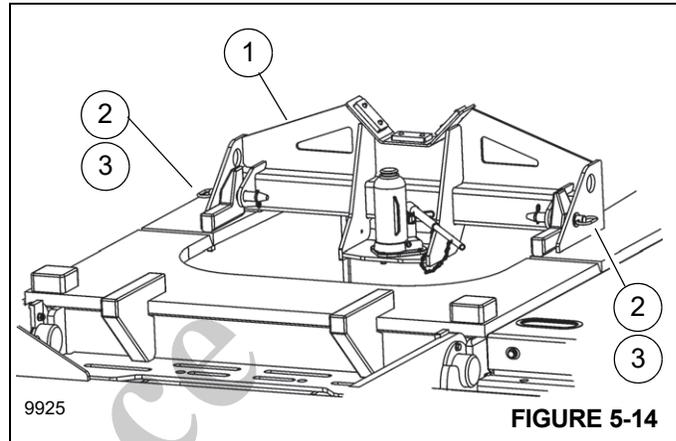

FIGURE 5-14
5. Remove the lift cylinder support (1, Figure 5-14) from the counterweight platform as follows:
5. Install the lift cylinder support (1, Figure 5-14) on the carrier as follows:
- a. Remove retaining clips (2) and pins (3).
- b. Position the lift cylinder support (1) on the carrier. Align support holes with the holes in the counterweight stops.
- c. Secure the support (1) to the carrier with pins (3) and retaining clips (2).